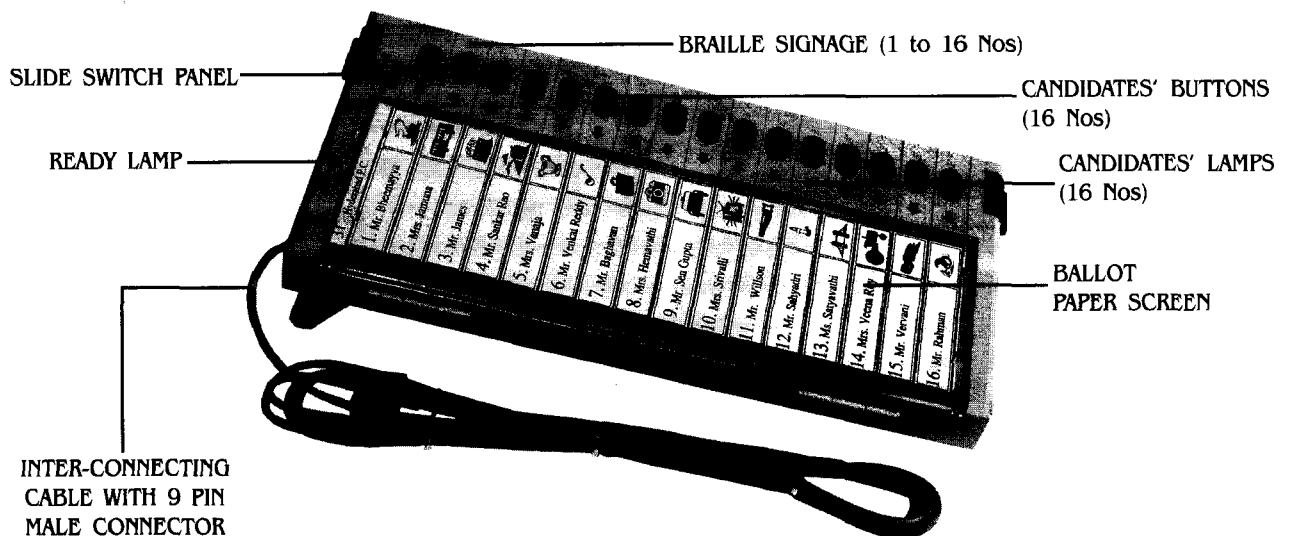

Fig.3 Ballot Unit
10. It consists of a rectangular box. The box, which is as shown in Fig. 3, has -
Candidate's Button (Fig. 3)
Slide Switch (Fig. 3 and 5)